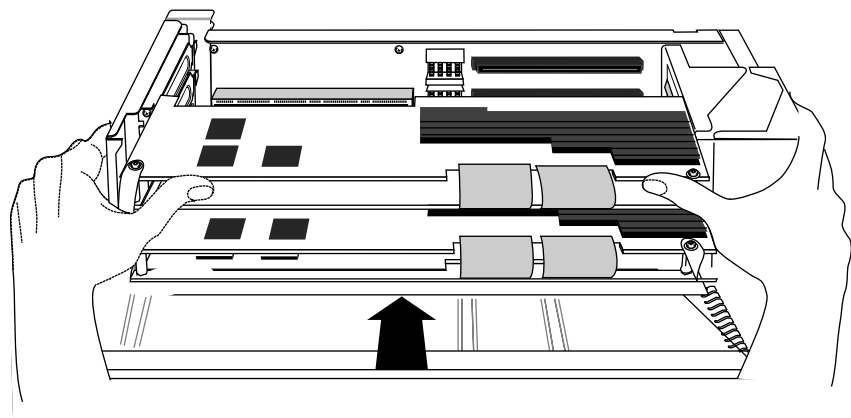

Figure 4-12 Inserting the 2-Slot Graphics Board Set
- Grasp the chassis with your fingers and push the board set into place with your thumbs. See Figure 4-12.